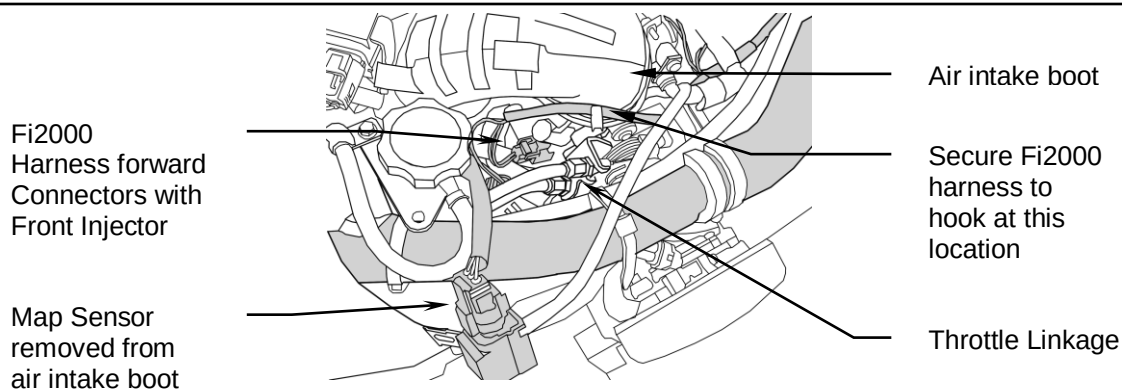

FIGURE 2
3. Locate the MAP sensor on the left side of the air intake boot. Slide the steel sensor mount out of the intake boot to allow access to the front fuel injector, underneath the boot, see Figure 2.
4. Disconnect the stock front injector connector by pressing on the tab at the rear of the connector. On the Fi2000 harness locate the longer set of connectors. Now connect the female Fi2000 matching connector to the injector and then connect the stock female connector to the corresponding male Fi2000 connector. Reinstall the map sensor. Route the Fi2000 harness so that it is fixed in the retaining hook near the air intake boot, to keep the harness clear of the throttle linkage, see Figure 2.